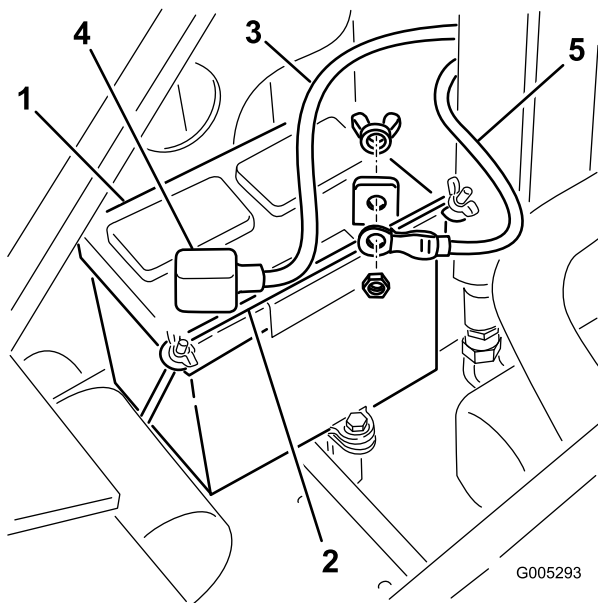

Figure 45
4. Remove the wing nuts and bar securing the battery (Figure 45).
5. Disconnect the negative (black) ground cable from the battery post (Figure 45). Retain the fasteners.
7. Disconnect the positive (red) cable from the battery post (Figure 45). Retain the fasteners.